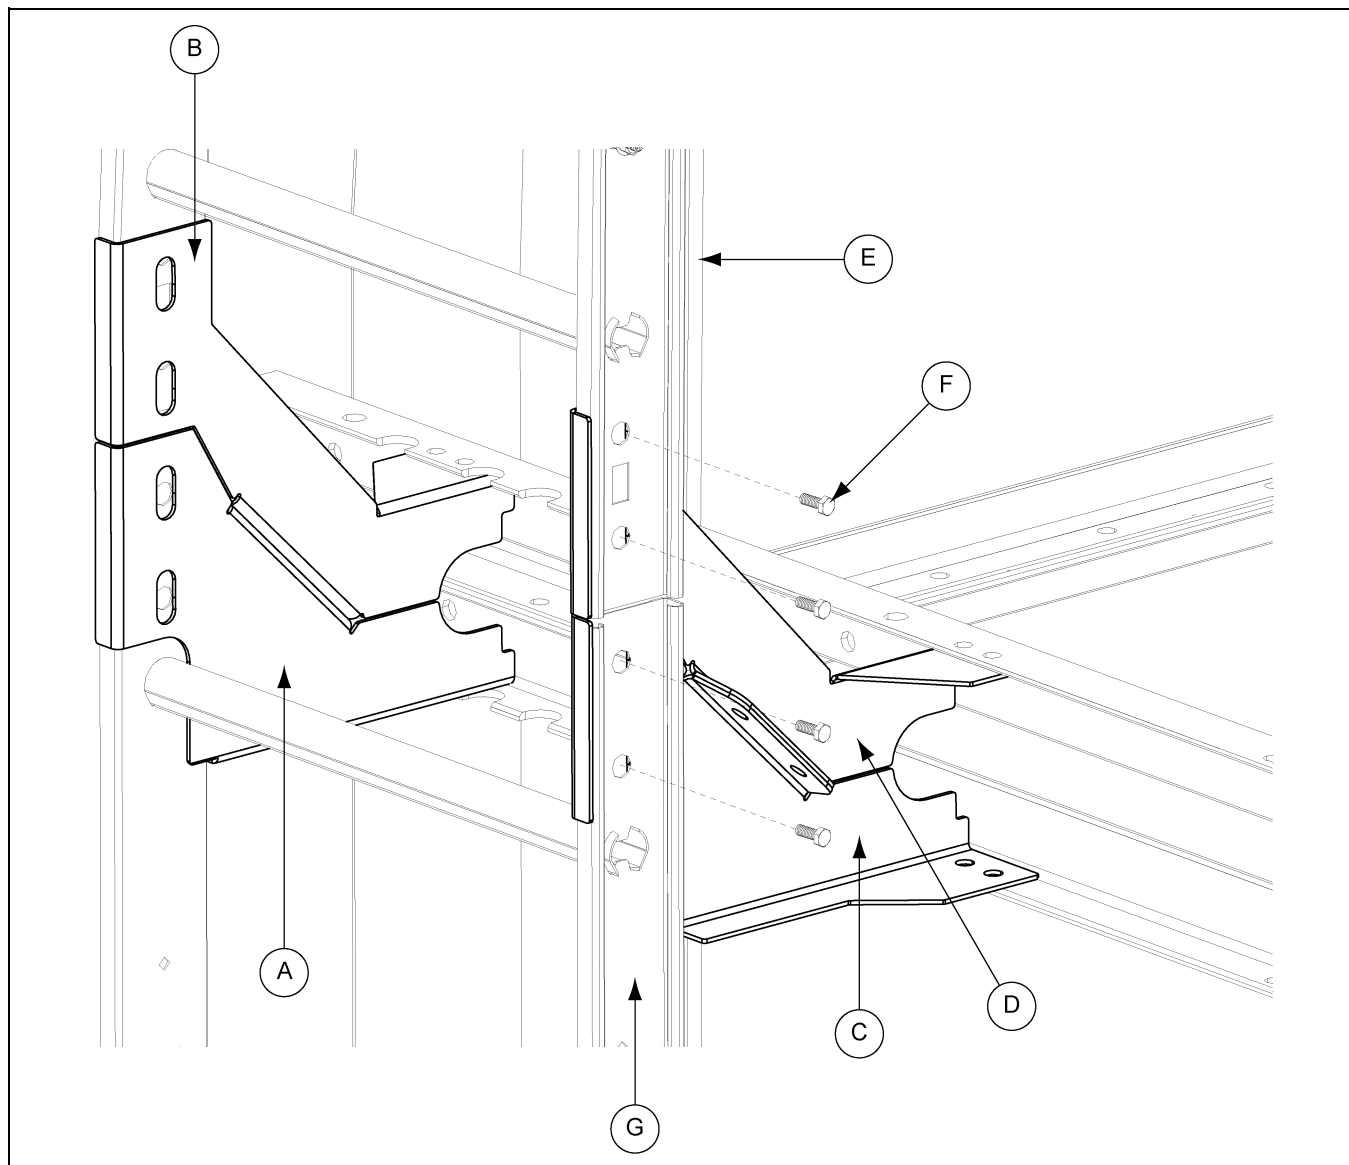

Figure 6M
1. Attach ladder sections to the ladder brackets using 1/2" x 1" hex bolts (S-7935) (F). (See Figure 6M.)